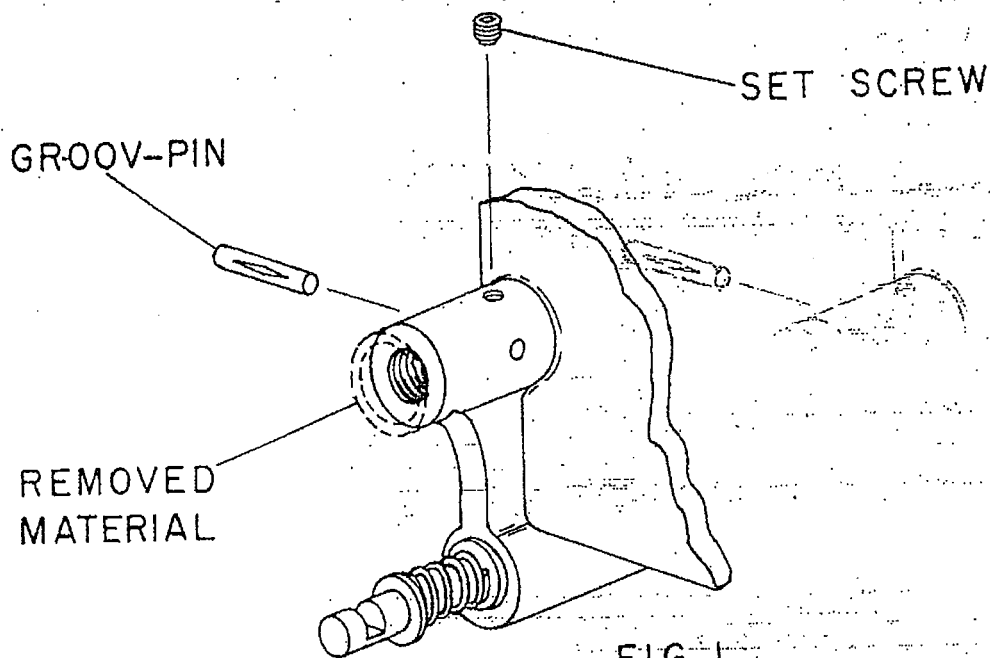

FIG. 1
- (1) Remove cover assembly by rapping steel fuel inlet fitting with plastic faced hammer. Discard cover gasket.
- (2) Remove power jet.
- (3) Remove #15-A260 set screw and #71-37 Groov-Pin and discard Groov-Pin. (See Fig. 1).
NOTE: Precaution must be taken when removing the casting material so that the squareness of the counterbore face is not disturbed. (See Fig. 1).